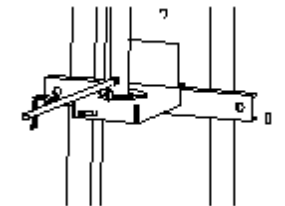
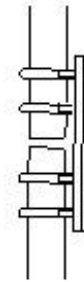
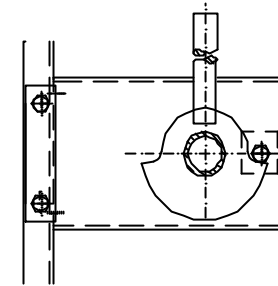
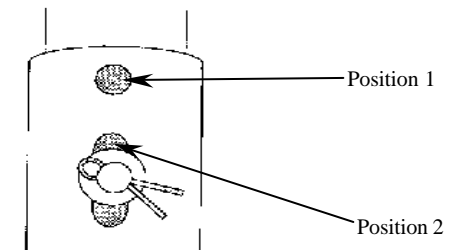

Figure 34
Figure 39
Figure 40
Figure 41
- The transmission tubes are provided in separate packaging. The lower part of the control, the activating lever (figure 34) and the connecting parts of both tubes (figure 39) are to be found inside the same packaging as the switch.
5. Cut the tube or tubes if required and position the connecting piece (figure 39), place the lower tube in the fully open position (Figure 40) and tighten the clips on the connecting piece.(Figure 41).
6. Once the apparatus has been fitted, pass the bolt from position 1 to 2 (figure 41), checking that the opening and closing operation functions correctly.